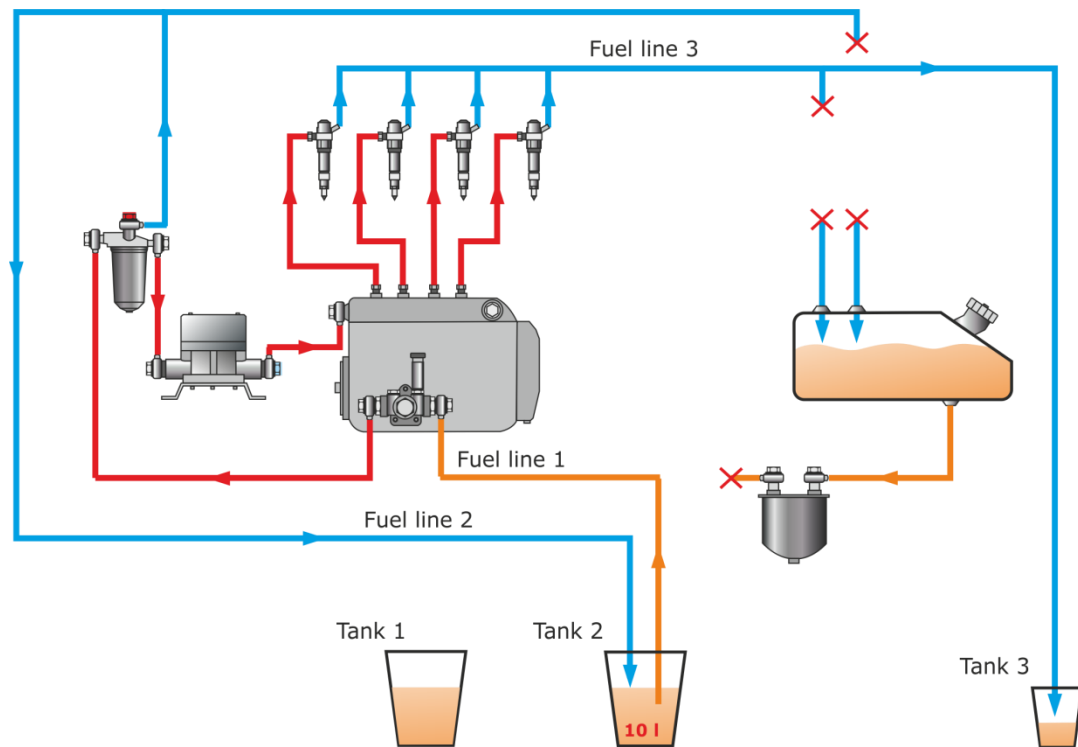

Figure 35 — Fuel system scheme during test
- 1) Pour fuel into Tank 1. The amount of fuel must be enough to eliminate air from the fuel system and warm up the engine (see figure 35).